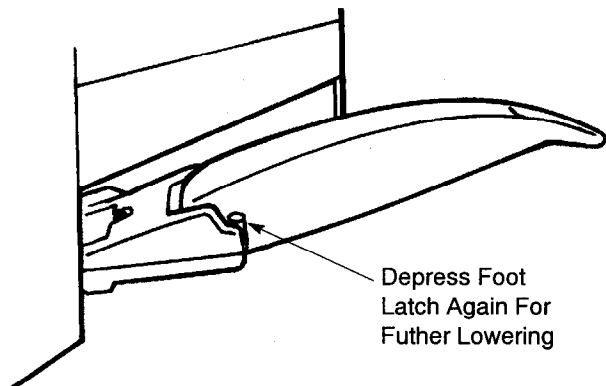

FIG. 3
7. For vacuuming under desks or other hard to reach places, lower handle to stop point and depress handle release foot latch once again. This enables for further handle lowering (*Figure 3*).